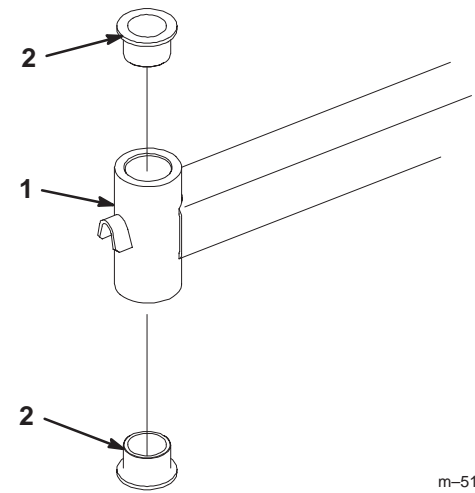

Figure 60
4. Insert a pin punch into the mounting tube and carefully drive out the bushings (Fig. 60). Clean the inside of the mounting tube.
6. Inspect the caster wheel fork for wear and replace if necessary (Fig. 60).